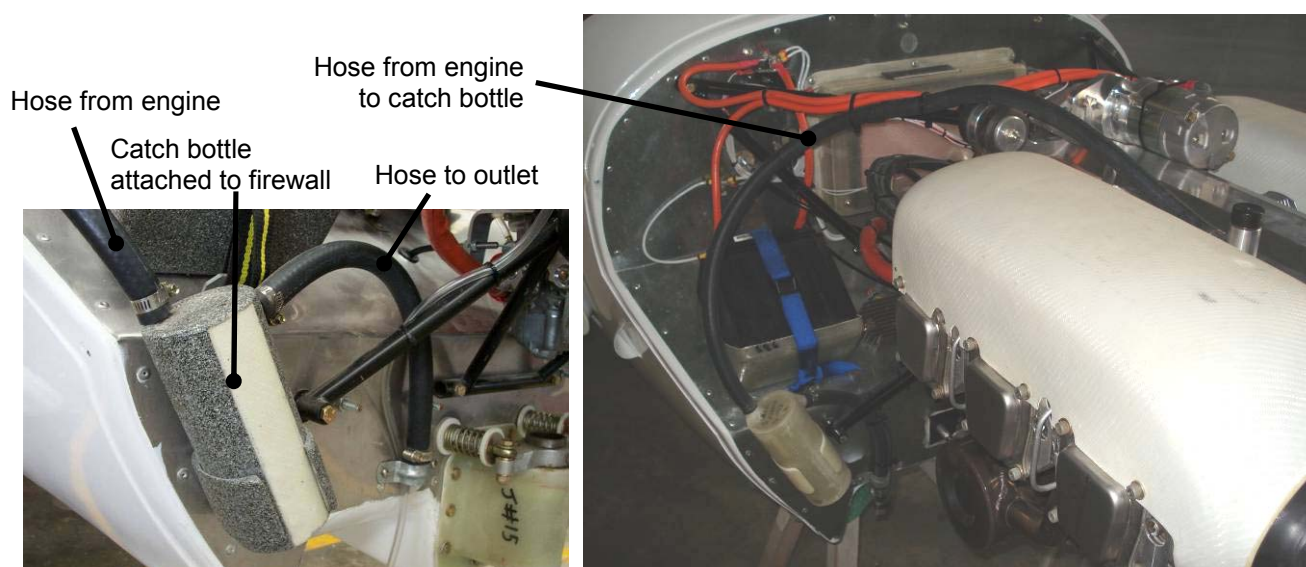

Figure 7. Crankcase Breather Installation
- The Jabiru 5100 engine has a crankcase breather connection built into the dipstick housing. This is to be connected as shown in Figure 7 below.